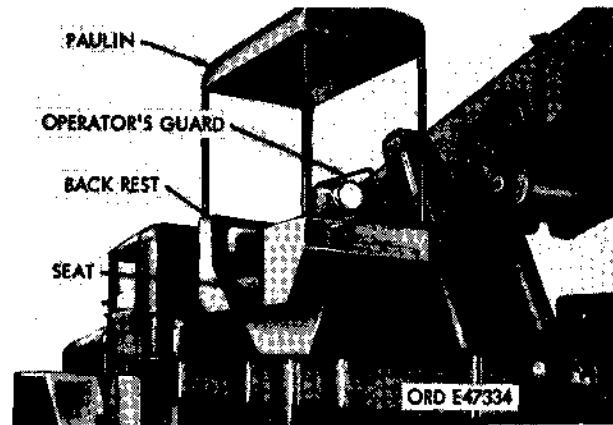

Figure 545. Operator's Station.
k. *Operator's Station.* The operator's station is of all welded steel construction. A metal frame and paulin, is provided for operator's protection (fig. 545). The operator's seat, backrest and controls are mounted in the operator's station. A guard bolted to the operator's station next to the boom protects operator from accidentally contacting boom as it raises and lowers.